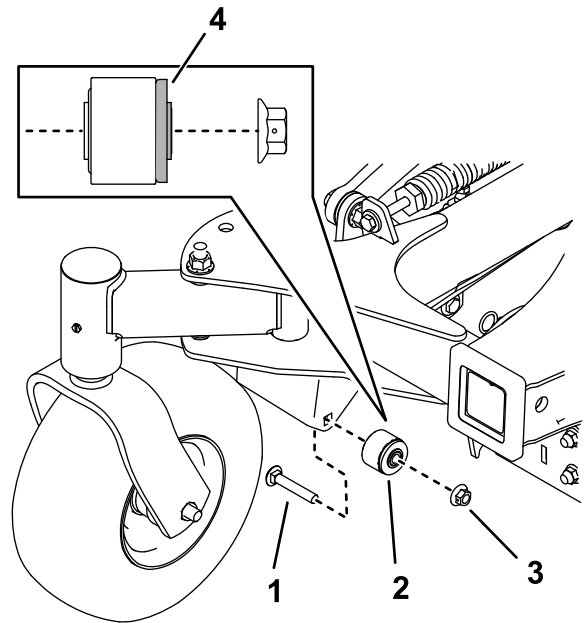

Figure 12
9. Use a carriage bolt (3/8 x 2-1/4 inches) and nut (3/8 inch) to install the bushing assemblies to the machine (Figure 12). Torque the bolt to 37 to 45 N·m (27 to 33 ft-lb).
Note: The rubber flange of the bushing should face toward the inside of the machine as shown in Figure 12.